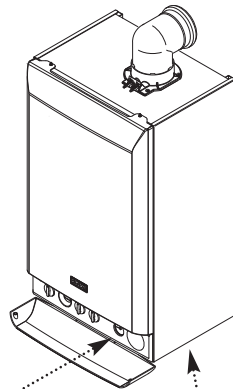

Fig. 3a
4. Look underneath the right hand side of the boiler to identify and locate the "Easy-Fill" link (Fig. 3a).